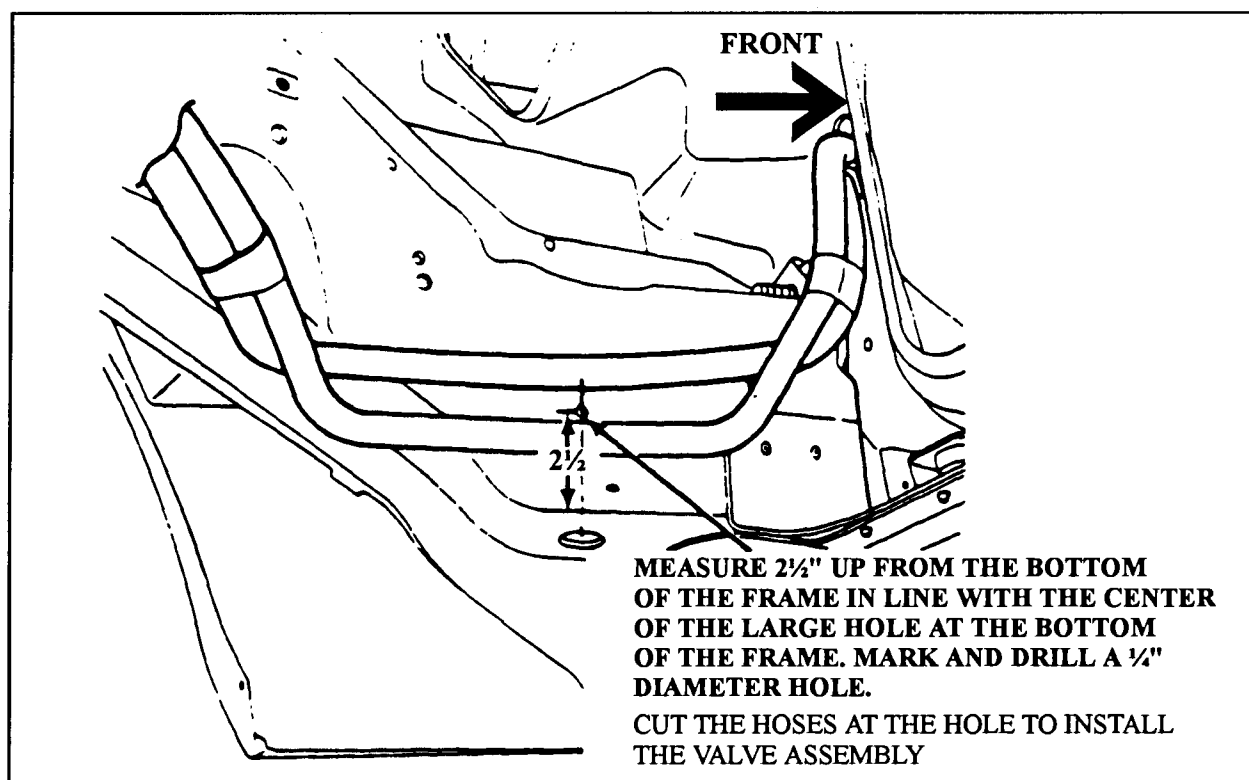

Figure 47
1. Measure up 9 ½ inches from the bottom of the frame rail, as shown in Figure 47, and drill a ¼ inch hole in the frame rail.
2. Pushing the cooler hoses against the frame, identify and cut the cooler "in" (to cooler) hose at the drilled hole (Figure 47) and allow oil to drain. Cut only one hose at a time so as not to get them mixed.
6. Now cut the other hose, cooler "out" (from cooler) at the drilled hole (Figure 47), allow oil to drain, and connect the hose ends to the bypass valve assembly connectors in the same manner as above.